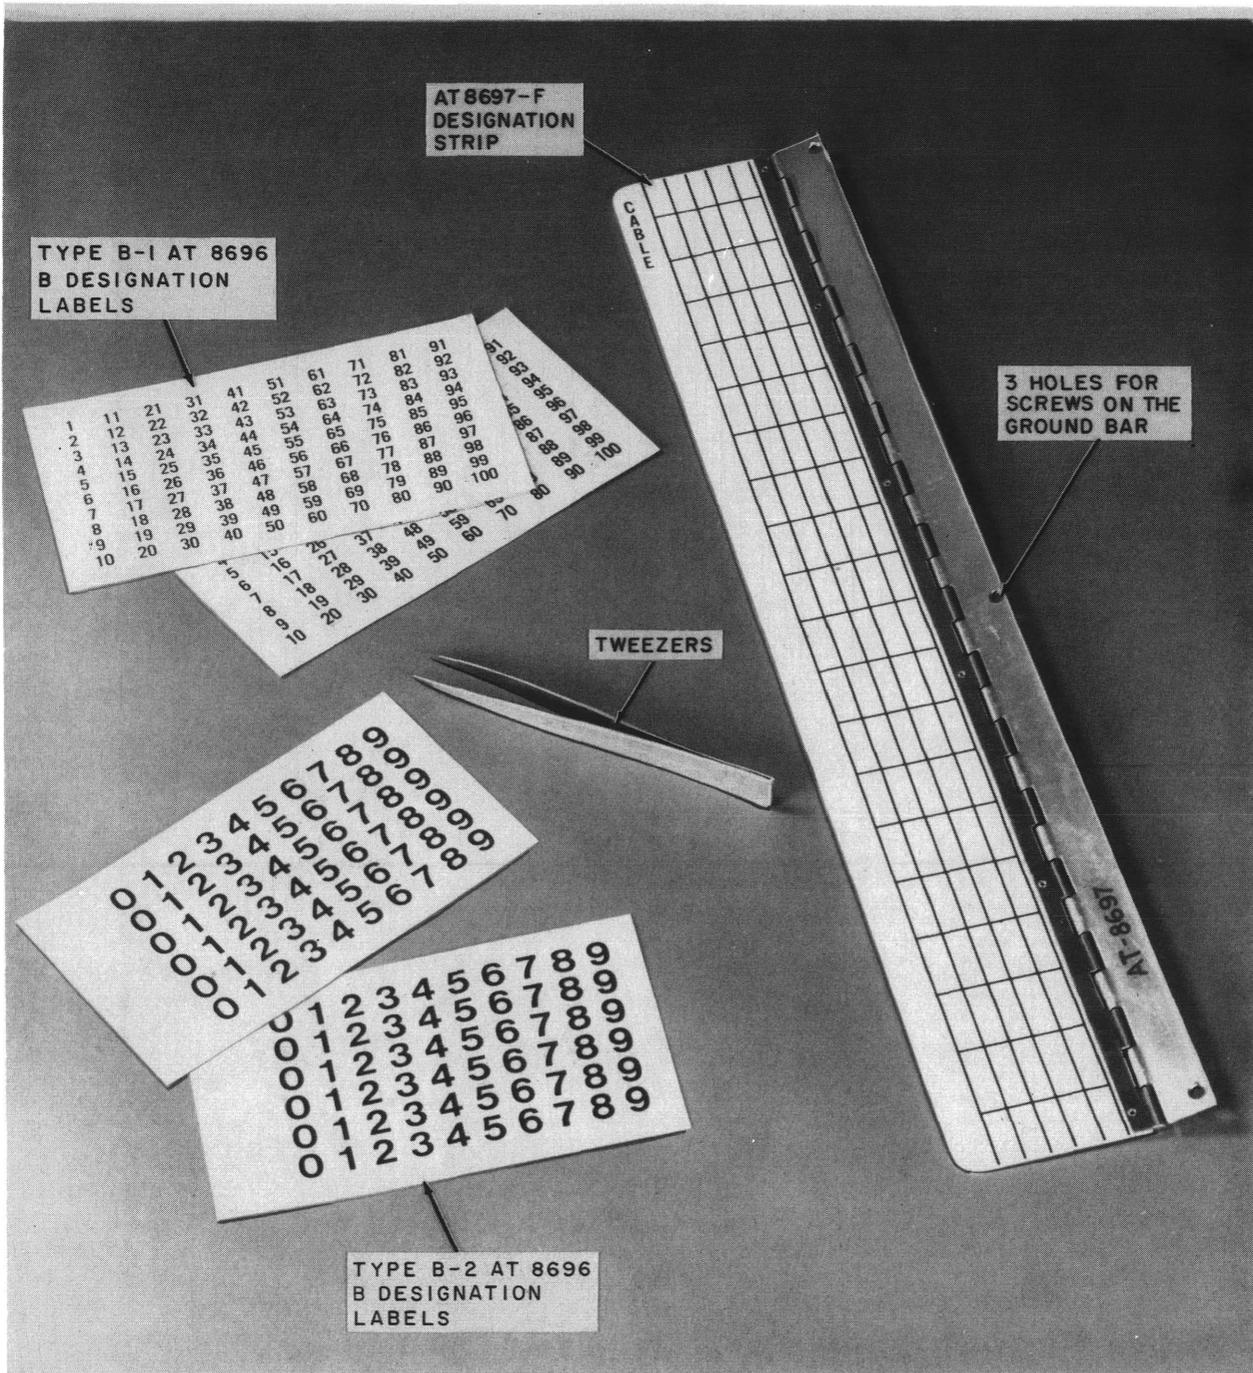

Fig. 9—AT-8697-F Designation Strip and AT-8696-B Designation Label
3.04 The AT-8696-B designation labels are affixed to the AT-8697-F designation strip (Fig. 9) for identifying the end of one cable and the beginning of another. The labels are preprinted with black numerals and are made of a thin polyvinyl chloride film which is backed with a pressure sensitive adhesive.